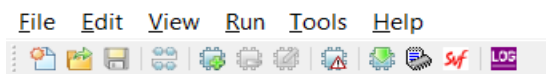

Figure 5.5. Programmer Menu Bar
4. Click the **Programming** button from the menu bar shown in Figure 5.5 to start programming.